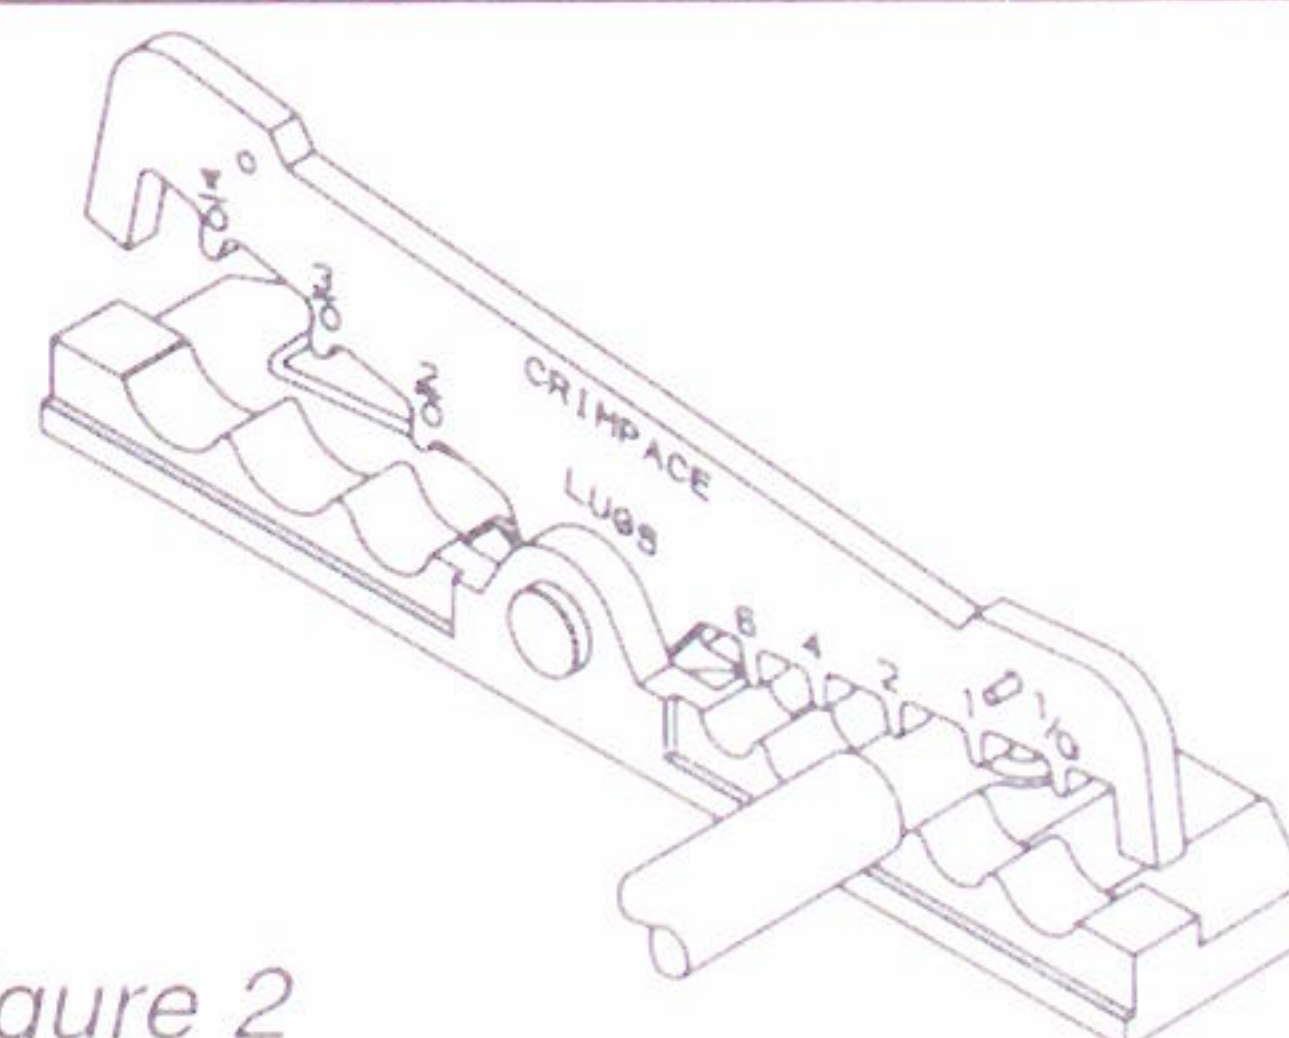

Figure 2
4. With crimp plate numbers facing you, push down on opposite side of the plate to allow insertion of the lug into the proper crimp nest. After inserting lug in proper nest, release crimp plate so the spring will hold the lug in position. Insert wire/cable fully into lug. See Figure 2.